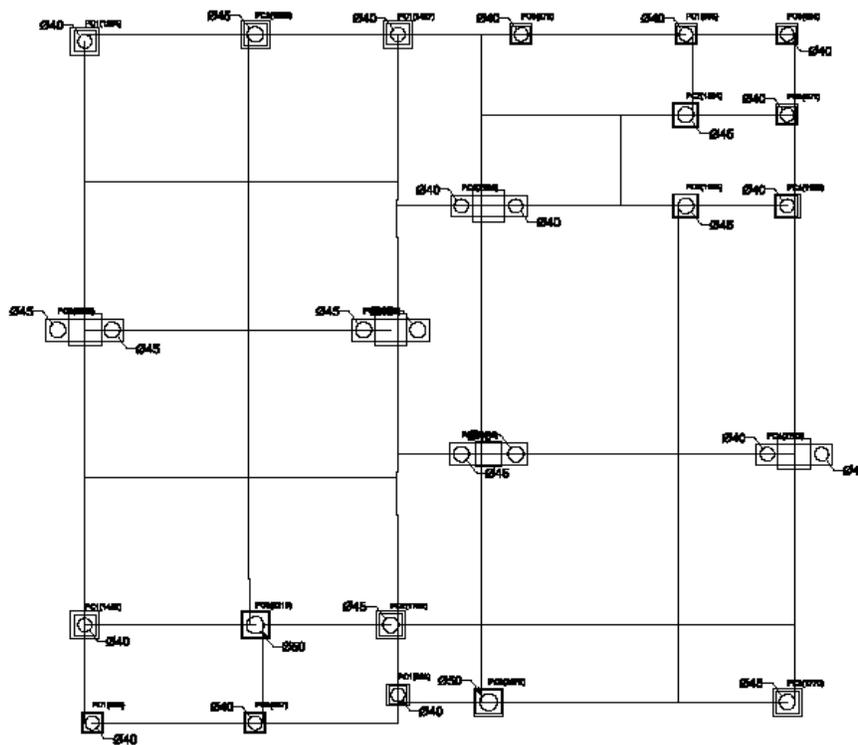

Fig 5.1.6
- Click on the Draw in Cad from tool bar ( Fig 5.1.6)